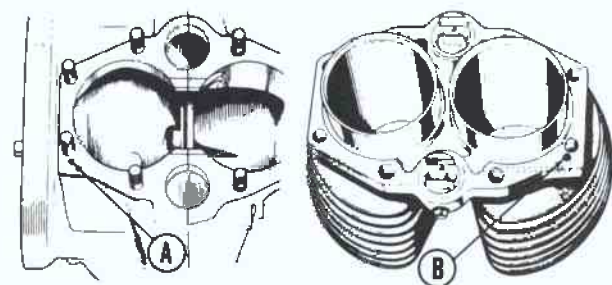

Fig. TM4-22—On later 650cc models, make certain hole in cylinder base gasket is over oil passages (A) in crankcase and (B) in cylinder.
should be installed with cut-away faces (C) toward outside. Inlet cam follower block on late models and both guide blocks on earlier models should be similarly pressed into place; however, these are not pressure lubricated and do not have oil holes (B) or cut away sections (C). On late models, make certain that the cylinder base gasket is installed with hole in gasket over the oil passage (A—Fig. TM4-22) in crankcase and oil passage (B) in cylinder.